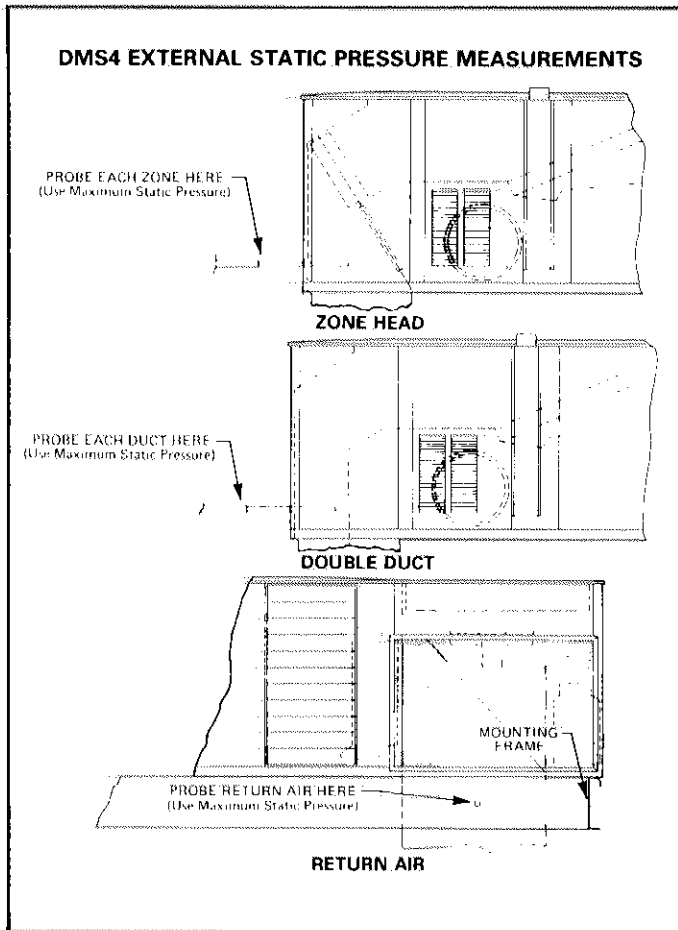

FIGURE 87
- 2 - Take external static pressures at locations specified in Figure 87.